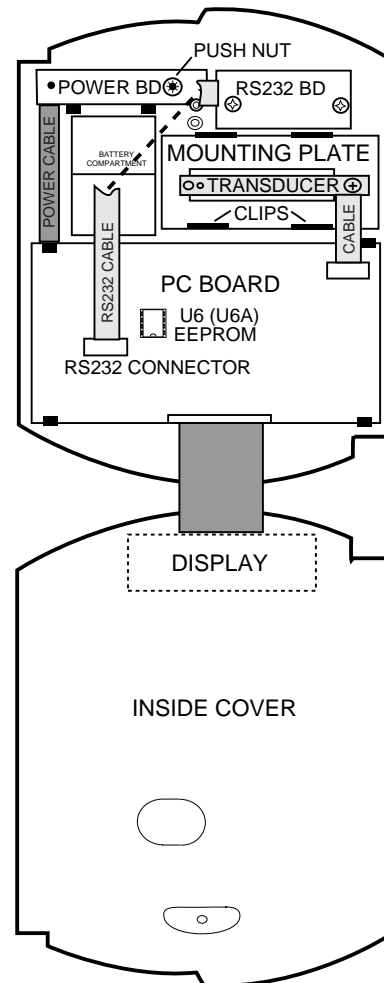
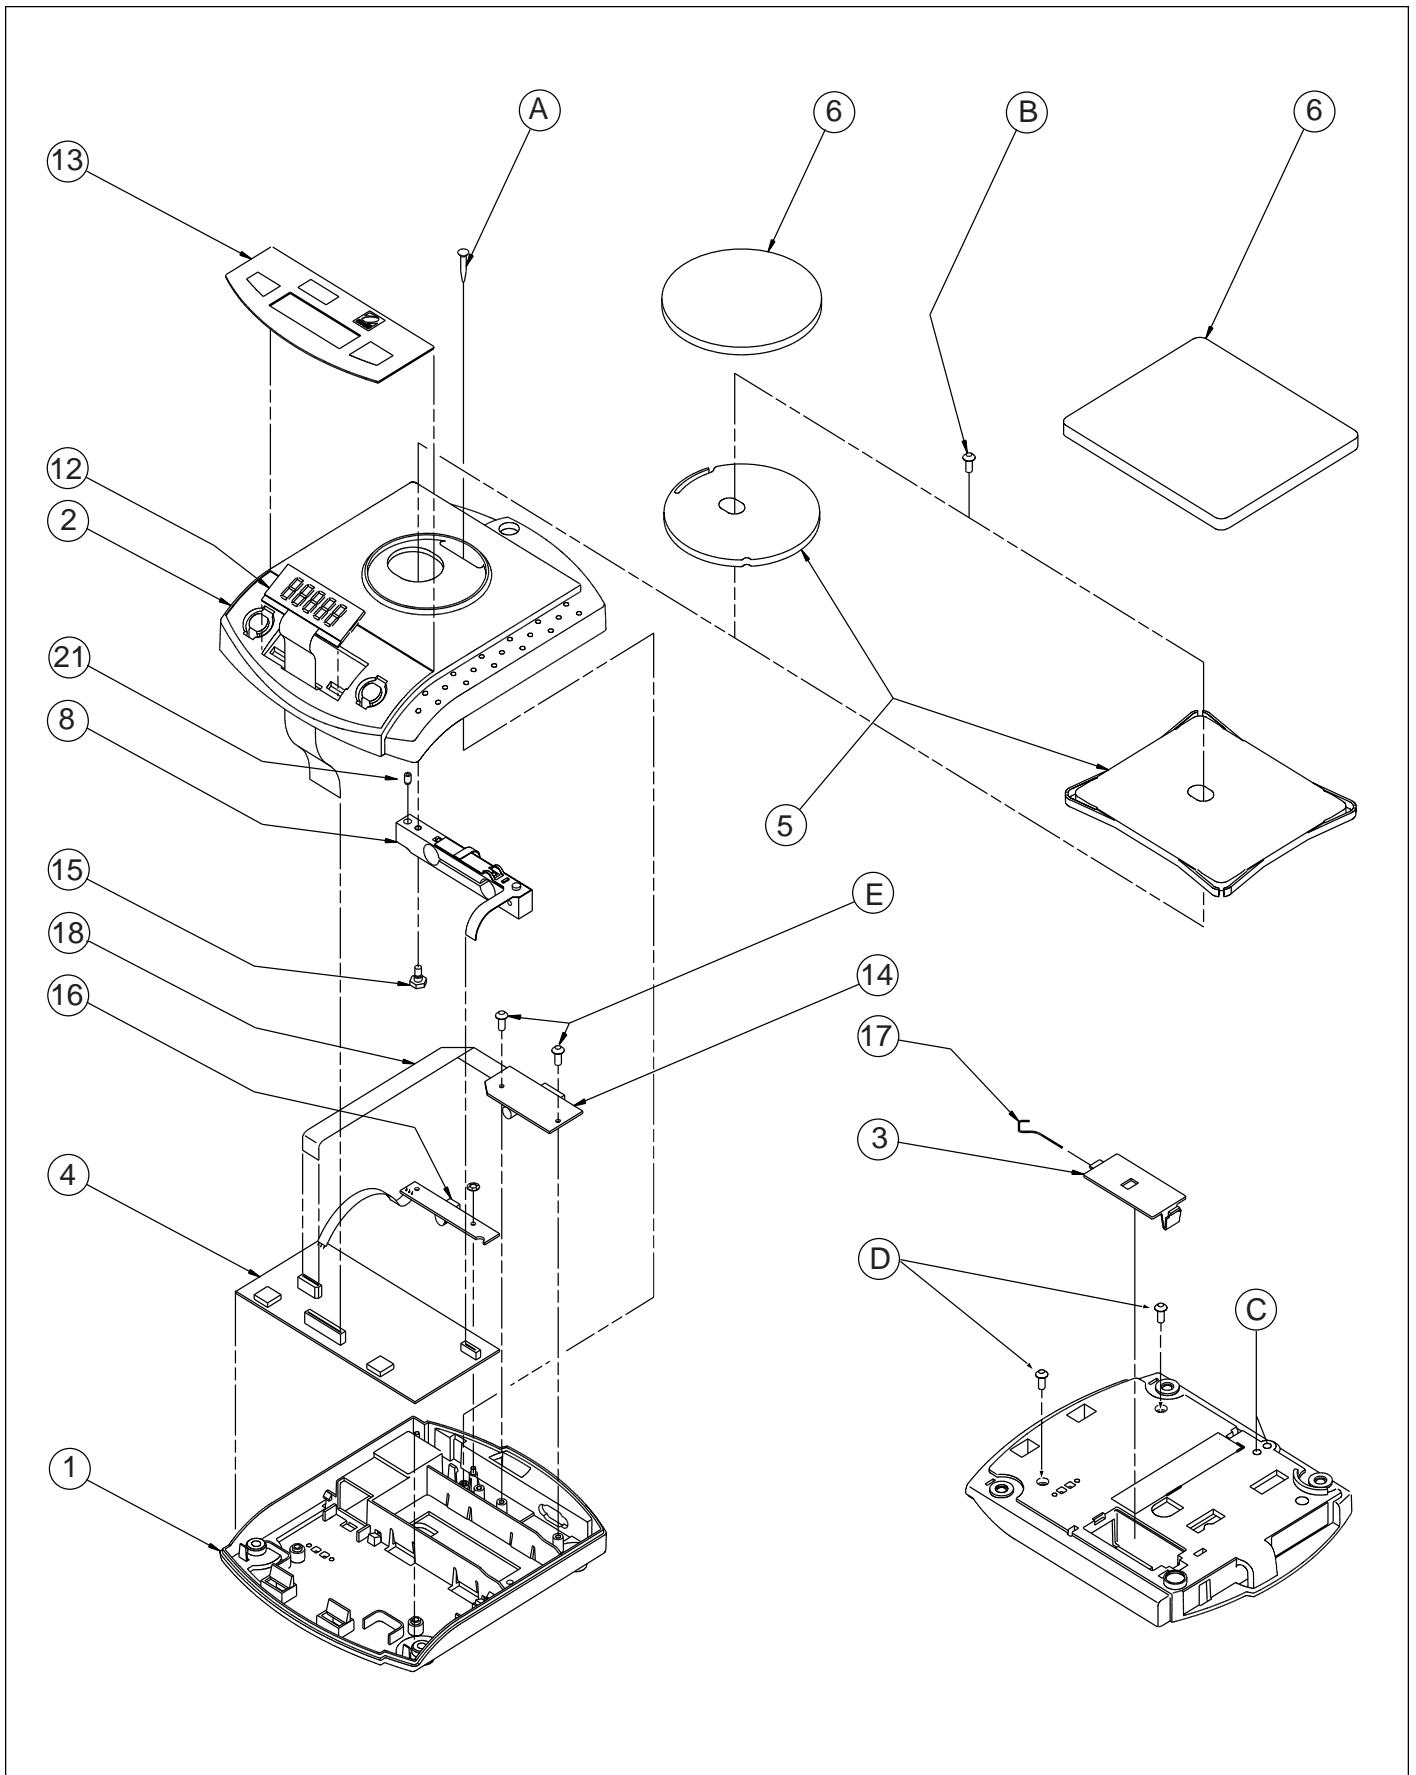

Figure 4-9. Balance Opened.
Figure 5-1. Exploded View of Balance.
7. With the balance facing towards you, remove the Cover (2) by first pulling the two barbed tabs on the front underside of the balance forward and pushing them upwards toward the top Cover (2). After the front of the top cover is loose, lift the cover from the rear and bring it forward keeping the front edges of the top and bottom covers close together. Position the Cover (2) in front of the Base (1) (see Figure 4-9). Use care as the LCD Display (12) is connected by a ribbon cable. The balance components are now accessible for repair or replacement.
2. The Printed Circuit Board (4) and Power Board are wired together by a short flexible cable. These parts are available wired together as a kit, refer to the parts list for part number if both boards are to be replaced. Remove the flexible cable coming from the Transducer (8) from the connector on the Printed Circuit Board (4) as shown in Figure 5-1.
3. When an RS232 board is installed, remove the RS232 Cable (18) from the connector on the Printed Circuit Board (4).
4. Unclip the Printed Circuit Board (4) from the Base (1). On the Power Board, carefully remove the Push Nut, (use care as the plastic post can be broken easily) then, unclip the Power Board from the Base (1). Remove both boards from the Base (1).
5. On 200 and 1200 gram Balances, the EEPROM (U6 or U6A) from the old PC Board must be removed and installed in the new board. See Figure 4-9 for location.
2. With the Cover (2) folded back so that the inside of the balance is exposed, grasp the ribbon cable of the LCD using both hands and remove the cable from the socket on the Printed Circuit Board (4) as shown in Figure 4-9. The other end of the ribbon cable is permanently mounted to the LCD.
3. Turn the Cover (2) over and remove the Function Label (13). Remove all traces of adhesive from the Cover (2).
4. Carefully remove the defective LCD Display (12) from the Cover (2). Remove all traces of adhesive from the Cover (2).
5. Route the cable from the new LCD Display (12) through the opening in the Cover (2).
6. Place the replacement LCD Display (12) into position on the Cover (2). Peel off the adhesive back covering from the LCD and position the LCD on the Cover (2). Fasten the LCD Display (12) into the proper position.
7. Position the Cover (2) against the Base (1) as shown in Figure 4-9 and using both hands grasp the ribbon cable from the LCD and firmly press the cable into the connector on the Printed Circuit Board (4). Make sure that the cable is firmly seated in the connector.
8. Assemble the balance by placing the Cover (2) on top of the Base (1) and securing with the Cover screw (A) and Pan Support (5) using Screw (B).
9. Before removing the adhesive back covering, place the new Function Label (13) into position on the Cover (2) to see how the label fits. Then, remove the adhesive back covering and carefully fasten the Label into position.